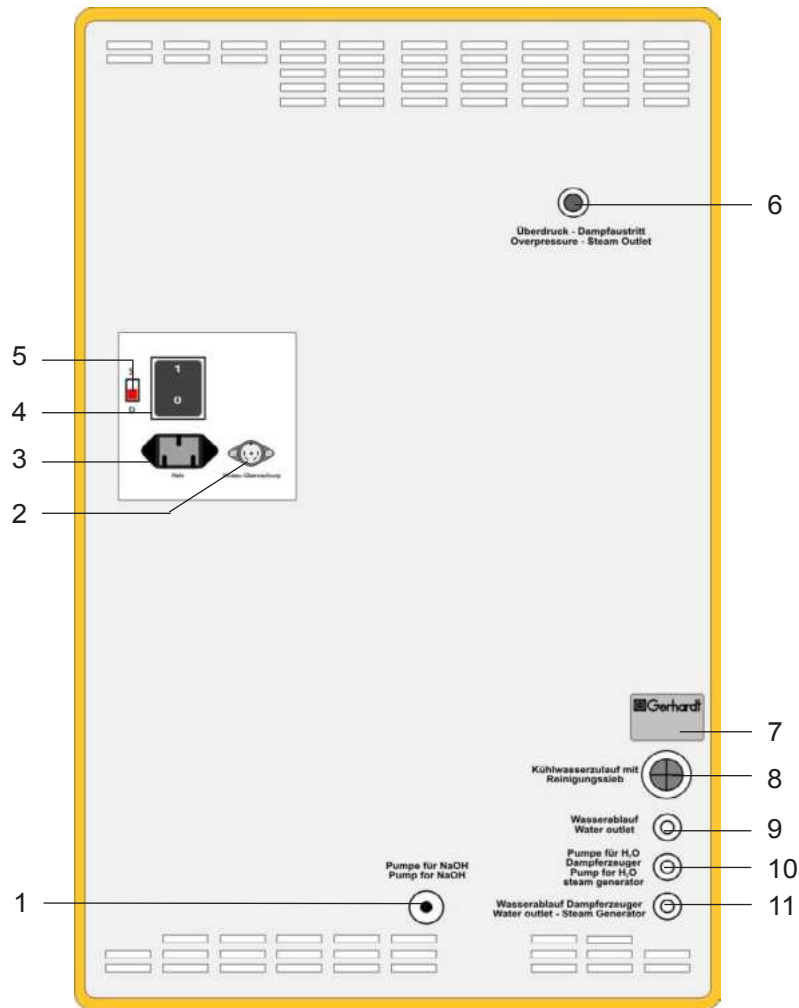

Fig. 3.4: Rear view Vapodest 10
- Connect the diode plugs of the level detectors to the distribution box and connect to the socket level detector (see fig. 3.4, pos. 4).